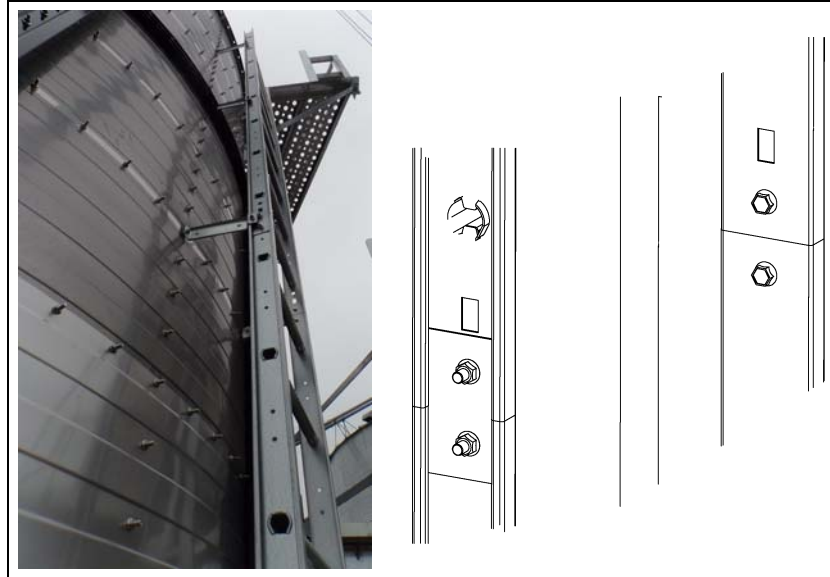

Figure 8I Close Up - Ladder Stiffener Splice
1. Splice outside ladder stiffeners with ladder stiffener splices. Snug bolt outside ladder stiffeners behind formed ladder sections. (See Figure 8I.)